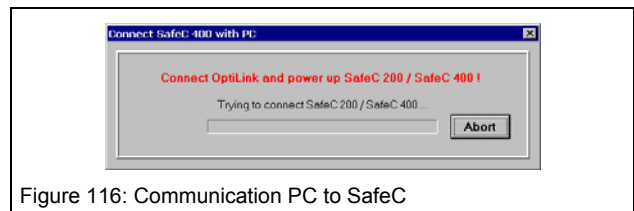

Figure 116: Communication PC to SafeC
8. Progress of communication from PC to the SafeC Controller Module can be seen in the progress bar shown in Figure 116.